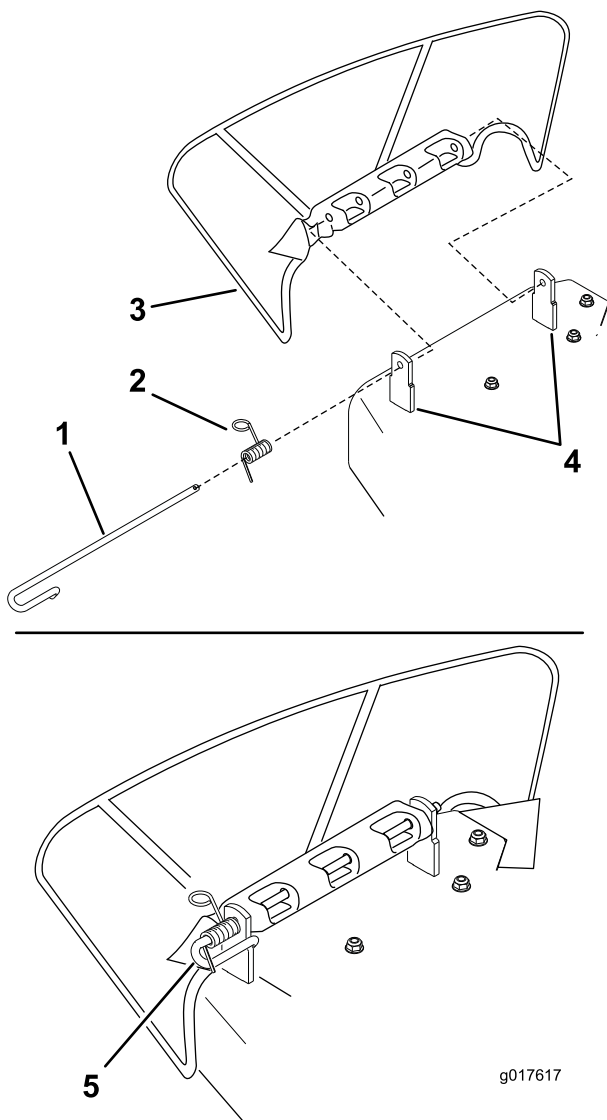

Figure 60
1. Disengage the spring from the notch in the deflector bracket and slide the rod out of the welded deck brackets, spring, and discharge deflector (Figure 60).
5. Position the spring on the rod as shown in Figure 60 so that the shorter spring end is coming from under the rod before the bend and going over the rod as it returns from the bend.